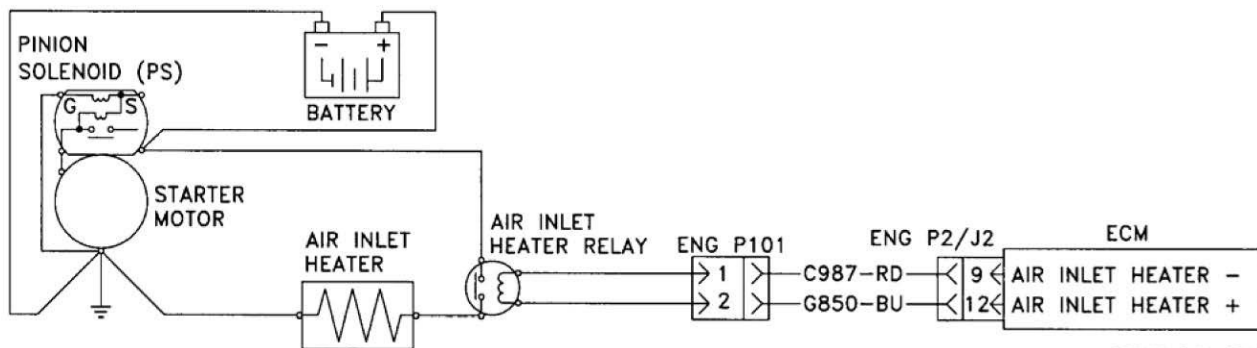

Figure 1. Air Inlet Heater Relay Circuit.
Use this procedure to troubleshoot any suspect problems with the air inlet heater circuit (Figure 1). This procedure augments Unit (Field) procedures for the following diagnostic codes displayed on the GSC:
- b. Connect a voltmeter between the wire from the +battery terminal of the air inlet heater relay and engine ground (Figure 1).
- (1) If the voltmeter indicates zero volts, ensure that the circuit breaker is not tripped.
- (2) Check the harness from the battery to the air inlet heater relay. Make any necessary repairs (WP 0096).
- (3) Retest and ensure the voltmeter measures  $24 \pm 3.0$  VDC.
- c. Connect a voltmeter between the output terminal of the air inlet heater relay and engine ground (Figure 1).
- STEP 11. If the problem is not resolved, check the wiring between the air inlet heater relay and the air inlet heater (Figure 1).